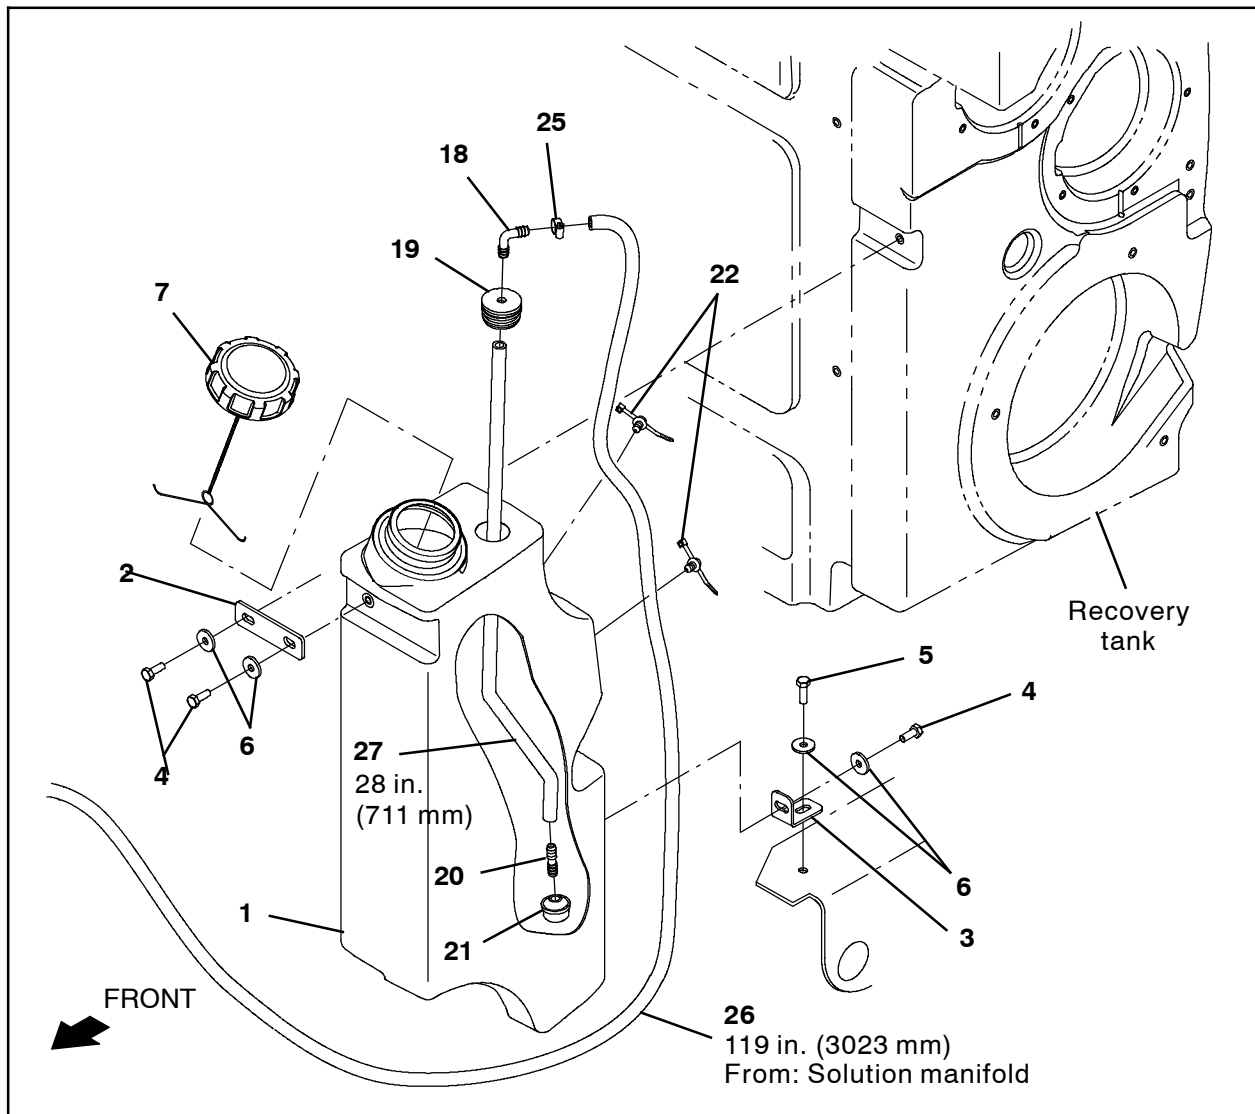

FIG. 3
9. Thread the straight fitting (20) into the pump screen (21). (Fig. 3)
10. Install the screen assembly assembled in the previous step onto the 28 in. (711 mm) PVC hose (27). (Fig. 3)
11. Install the 90° plastic fitting (18) into the grommet (19) and insert the end of the 90° plastic fitting inside the grommet into the 28 in. (711 mm) PVC hose (27). (Fig. 3)
12. Install the hose assembly assembled in the previous several steps into the detergent tank (1). (Fig. 3)
13. Use one M8 hex screw (5) and one flat washer (6) to install the detergent tank bracket (3) onto the frame of the machine. (Fig. 3)
14. Use one M8 hex screw (4) and one flat washer (6) to install the detergent tank (1) onto the detergent tank bracket (3). (Fig. 3)
15. Use one M8 hex screw (4) and one flat washer (6) to install the detergent tank plate (2) onto the detergent tank (1). (Fig. 3)
16. Use one M8 hex screw (4) and one flat washer (6) to secure the detergent tank plate (2) / detergent tank (1) to the recovery tank. (Fig. 3)
17. Use a hose clamp (25) to connect the 119 in. (3023 mm) PVC hose (26) to the 90° plastic fitting (18) installed on the detergent tank (1). (Fig. 3)
18. Install both wire ties (22) onto the detergent tank (1) and use the wire ties to secure the 119 in. (3023 mm) PVC hose (26) to the detergent tank. (Fig. 3)
19. Install the tank cap (7) onto the detergent tank (1). (Fig. 3)